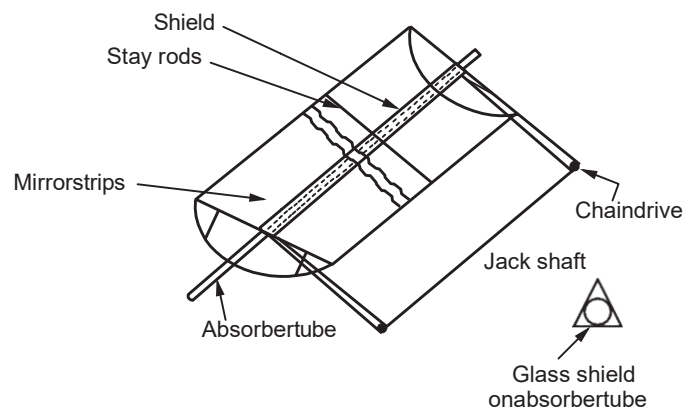

Fig. 2.8.2 Cylindrical parabolic system
- Mostly cylindrical parabolic concentrators are used in which absorber is placed along focus axis [Fig. 2.8.2].